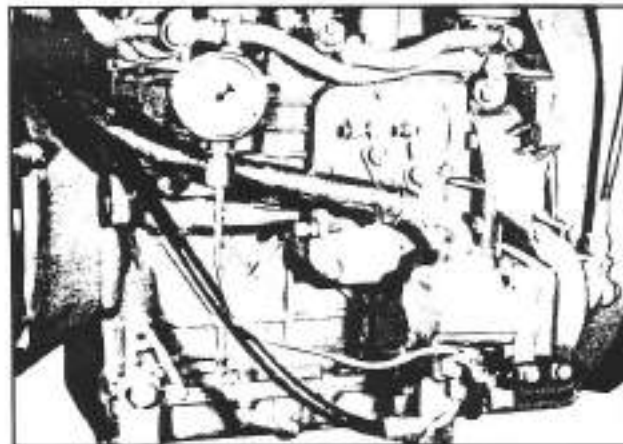

Fig. 3-70. Installation of the manometer on the hydraulic pump outlet
- a. Install, on the outlet fitting of the hydraulic pump, a manometer with a scale of at least 250 Atm. (See figure 3-70).
The flange of the hydraulic pump can be located in a different position, on the engine body, than that indicated in figure 3-70. The position may vary according to the engine installed in the tractor.